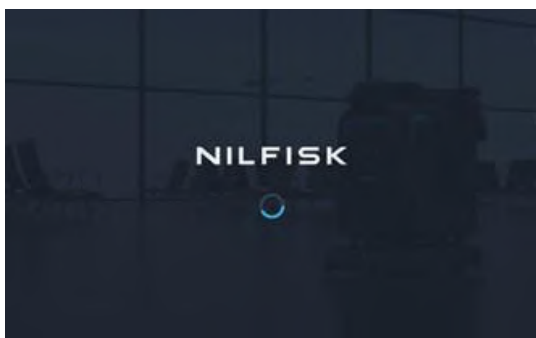

FIGURE 3-1
1. Turn on the SC25 and wait for the touchscreen to startup **(Fig. 3-1)**.